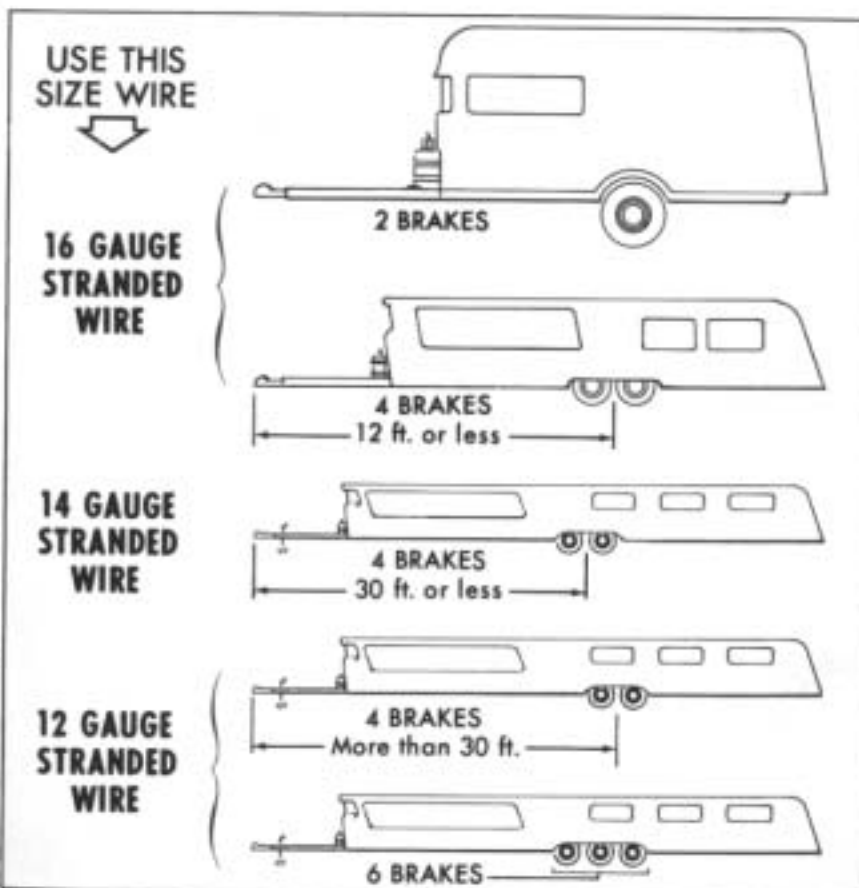

Figure 17
1. First select the proper wire gauge from diagram, Figure 17. The proper wire gauge selection is based chiefly on resistance but also on current carrying capacity. Excessive wire resistance can cause "weak" brakes. Be sure to use a good grade of moisture proof automotive STRANDED WIRE.